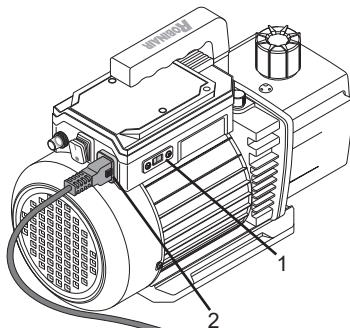

Figure 3
1. Set voltage selector switch (1) as needed to ensure the voltage setting matches the power supply rating at the outlet (*see Figure 3*).
3. Connect power cord (2) to vacuum pump (*see Figure 3*).